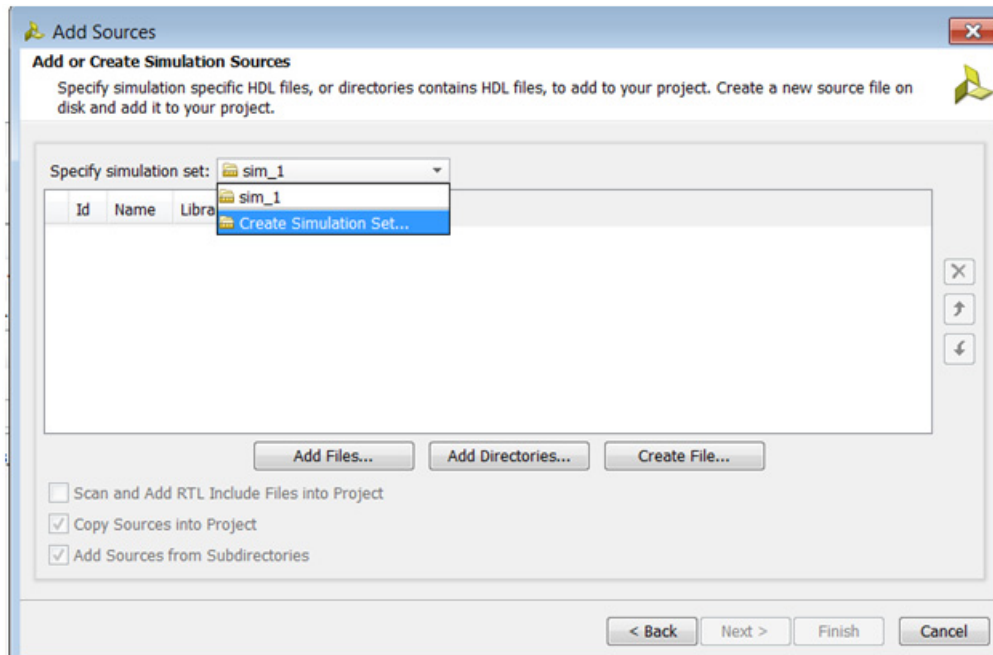

Figure 3-7: Add or Create Simulation Sources: Create Simulation Set Drop-Down
2. From the **Specify simulation set** drop-down, select **Create Simulation Set**, as shown in Figure 3-7.